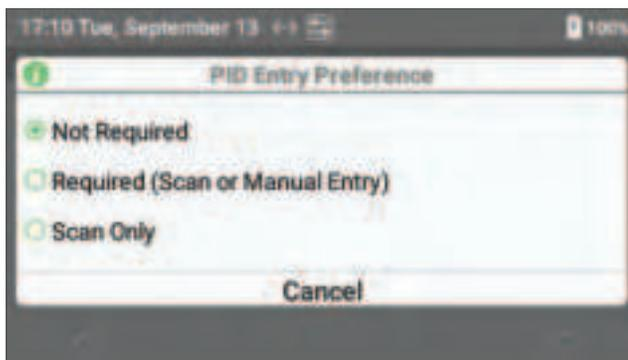

Figure 38: PID Entry Preference
- 2 In the dialog box (*Figure 38*), select the appropriate option: